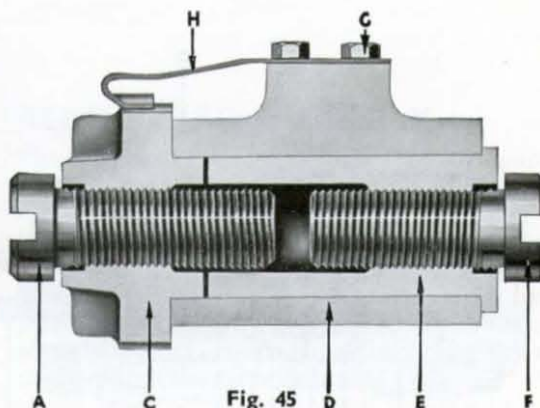

Fig. 45
Measure the distance from the centre of the liner on the brake shoe and carrier assembly and the inner face of the backplate flange; this dimension should be approx. $\frac{3}{4}$ ". If the dimension is more, turn the adjuster end cap in a clockwise direction to bring the adjusting screw (Fig. 45, Ref. A) outwards until this dimension is obtained. One complete turn of the adjuster end cap moves the adjusting screw approximately .070" outwards. This automatically moves the adjusting screw (Fig. 45, Ref. F) a similar amount.
Measure the distance from the centre of the liner on the upper brake shoe and the inner face of the backplate flange; this dimension should be $\frac{3}{4}$ ". If it is more, lever the brake shoe out of the slot in the adjusting screw (Fig. 45, Ref. F) and, using a lever, turn the screw outwards (left-hand thread) until this dimension is obtained. Back off the adjustment by turning the end cap and offer up the brake drum. If the drum will not pass over the shoes they may be out of the central position and should be tapped to allow the drum to be fitted. Fit the pressure pipe to the wheel cylinder, using new gaskets on the banjo bolt, re-connect the pull-rod to the lever in the cylinder, "bleed" the system and adjust the brakes.
The adjuster (see Figs. 45 and 46) consists of a body (D) which houses at one end, an adjuster cap (C) and, at the other end, an adjuster sleeve (E). Rotary motion of the end cap is transmitted to the sleeve through engaging dogs formed on the adjoining faces of the components. The end cap and sleeve are threaded internally to receive two adjuster screws, the one (A) in the end cap has a right hand thread, while the other (F), in the sleeve has a left hand thread. Secured by set screws (G) to a lug formed on the body, is a clicker spring (H) which engages one of the serrations on the end cap to provide security against vibration; in some cases a spring leaf is fitted in addition.